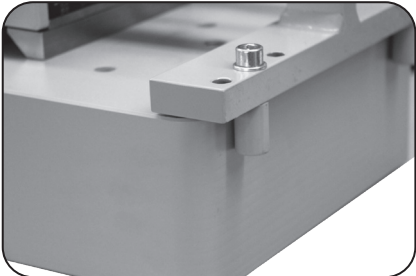
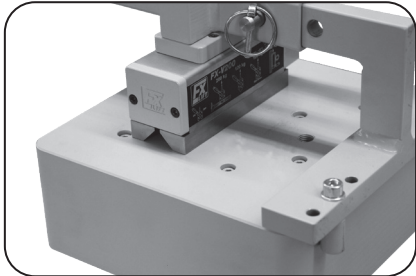

Fig. 1
Fig. 2
- The workpiece must always properly seated against the vertical stop during lifting. (Fig.1) The displacement force must be collected from the stop. You always must set the magnet centered in the focus of the workpiece, and tighten on the bearing bolts according to the workpiece geometry symmetrically. (Fig. 2)
4. The stops must rest firmly on the Lower edge of the workpiece to prevent a slippage of the load in vertical operation. (Fig.1) If this is the case, turn ON the magnet
3. Press the stops firmly against the lower edge of the workpiece. (Fig.1)